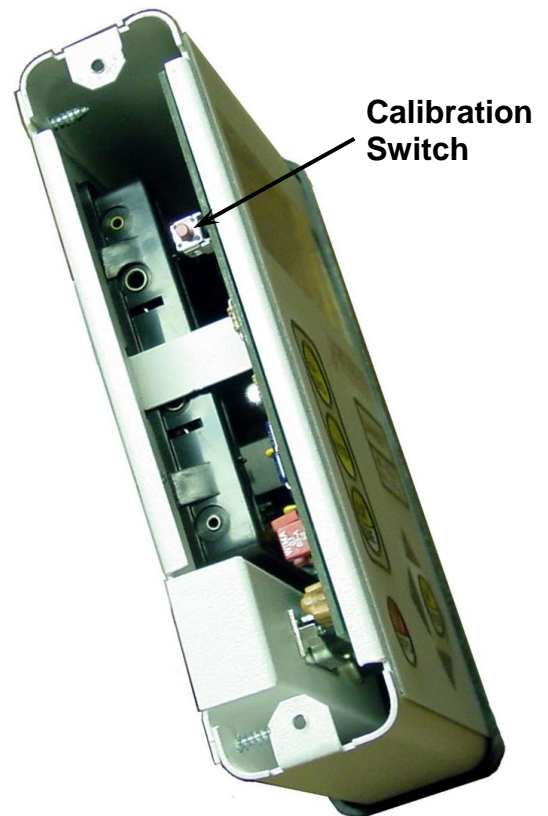

Figure No. 10
2. Locate the calibration switch on the circuit board and push it in. See Figure No. 10.